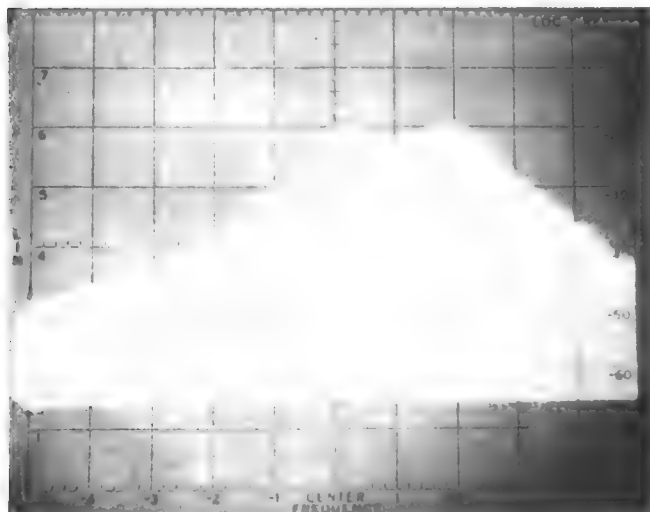
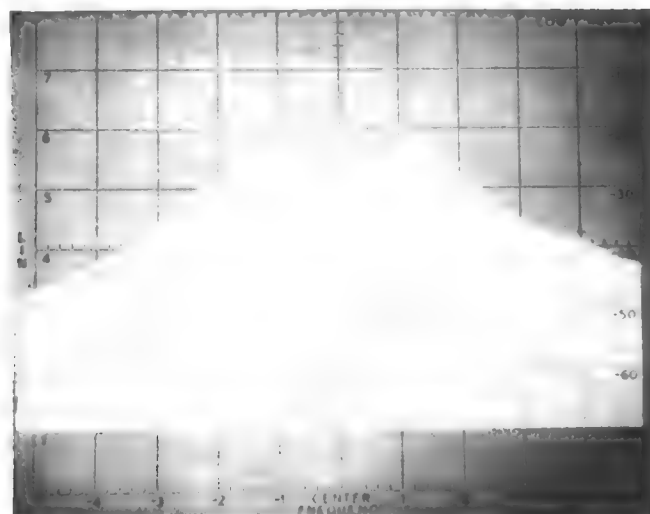

Figure 3-8. Typical Yig Filter Passband at 1.8 GHz, 10 MHz/DIV Display
Figure 3-9. Typical Yig Filter Passband at 4 GHz, 10 MHz/DIV Display
13. Adjust Preselector FREQ OFFSET control to center Yig filter passband on the 2 GHz signal. Center indicated by slight dip between two signal peaks. (See Figure 3-8).
3-17. The Yig filter has a 3 dB bandwidth that is typically 30 to 45 MHz. At the low frequency end of the filter range, overcoupling causes a passband with double peak (see Figure 3-8). The slight dip between the two peaks indicates the center of the filter bandpass and the point of adjustment for the FREQ OFFSET control. At frequencies above 4 GHz the passband has a single peak (see Figure 3-9). At frequencies, the FREQ OFFSET may be adjusted for maximum output level. For wideband frequency tracking, the FREQ OFFSET control should be adjusted at a frequency of approximately 2 GHz. For narrow band tracking with minimum filter insertion loss, the FREQ OFFSET control should be adjusted at the frequency of interest.
Measurement conditions for Figures 3-8 through 3-10. Analyzer bandwidth 300 kHz, 10 dB log. Preselector fixed-tuned to frequency indicated. Input signal tuned through passband.
and **TRACKING** controls. Correct adjustment will provide hands-off tracking through 10.5 GHz. At frequencies below approximately 4.0 GHz, there is some error in signal amplitude when tracking in the center of the passband (see Figure 3-8). The Preselector insertion loss calibration curve is based on a signal tuned to the peak in the passband, not to the center passband dip. For accurate amplitude measurements, adjust **FREQ OFFSET** for maximum signal level at frequency of measurement.